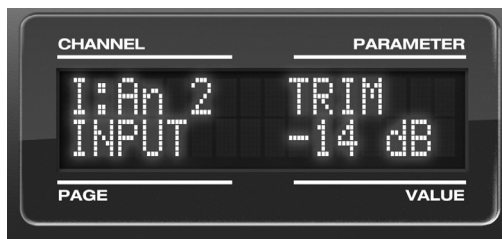

Figure 4-8: Setting the input trim for a TRS analog input pair.
- 4 After splitting the stereo pair, if necessary, turn the PARAM knob until you see the TRIM parameter in the LCD (Figure 4-8):